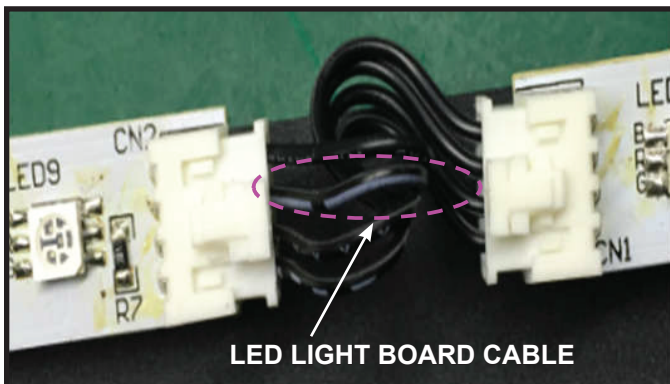

Figure 9. Unplug LED Light Board Cable
3. Unplug the LED Light Board cable. See Figure 9.
5. Remove and discard LED light board, replace with new LED light board. Install new LED light board by engaging the holes in the light board with the plastic barbs, and pressing into position. Reconnect the cables. See Figure 9.